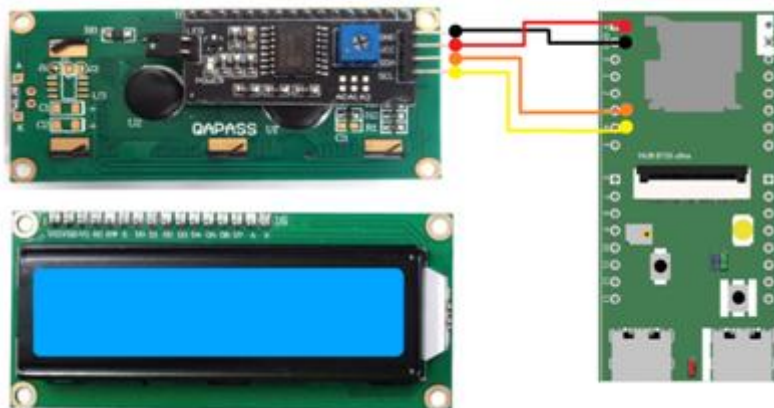

Figure 19 、LCD 1602 and HUB 8735 ultra connection
Connect the LCD 1602 to HUB 8735 ultra as Figure 19. Compile and upload your code to HUB 8735 ultra (Refer (4) HUB 8735 ultra Firmware Upgrade). Reboot the hardware board, and you can see the string “Hello World” and “Ameba” on the LCD 1602.